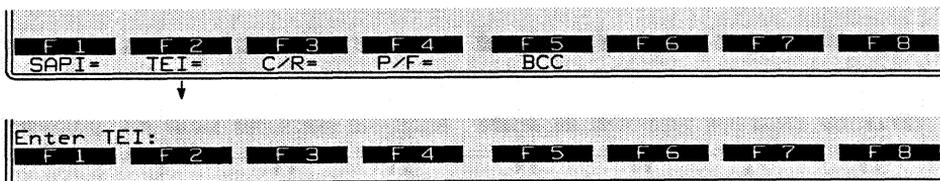

Figure 39-10 The TEI is an optional condition within all frame-type conditions.
7. **TEI.** Like SAPI, a TEI condition may be added to all frame types. Press the softkey for TEI=, shown in Figure 39-10. Then enter the 7-bit TEI value as two hex digits in a range from 00 to 7F. (Do *not* use the **HEX** key.)